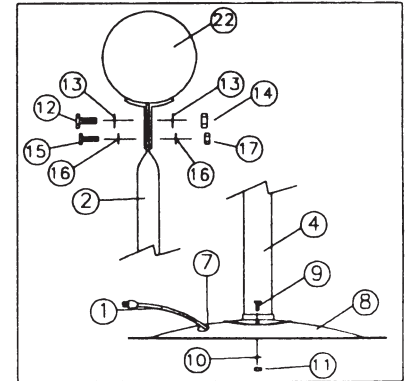

FIGURE 2
- Insert round grommets (7) into large holes on base (8). Route power cord (1) from the bottom of the lower column (4) through the center hole and out the hole on the side of the base (8). Mount the column to the base using five 5/16-18x3/4 carriage bolts (9), lock washers (10), and 5/16-18 hex nuts (11). See figure 2.
- Mount the motor assembly (22) to the upper column (2) using 1/2-13x1 bolt (12), 1/2" lock washer (13), 1/2-13 hex nut (14), 1/4-20x1 bolt (15), 1/4" lock washer (16), 1/4-20 hex nut (17). See figure 2.